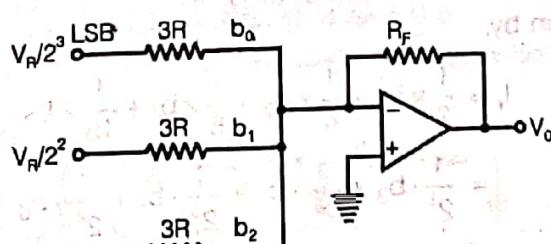

Fig. 9.6(d)
The value of the "input impedance" or "equivalent resistance" is $3R$ in each case. The equivalent circuit of figure (9.6) is given in figure 9.6(6) as,